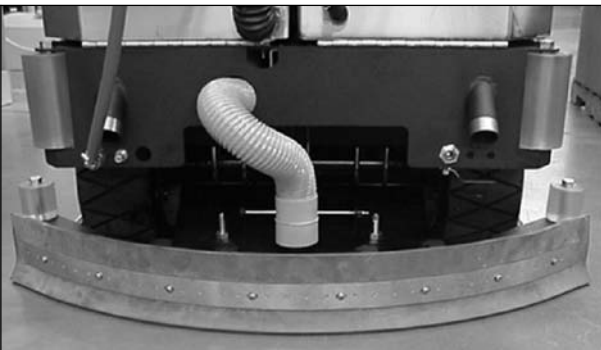

FIGURE 17.
4. THIS SQUEEGEE IS ADJUSTED JUST RIGHT WITH GOOD DEFLECTION ACROSS THE ENTIRE REAR BLADE (SEE FIGURE 17.)